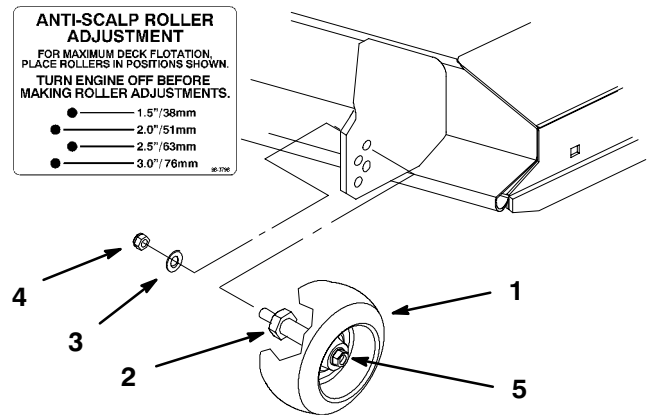

Figure 11
Note: Press on lift assist pedal when raising deck. This will help in lifting the deck (Fig. 11).
2. After adjusting height-of-cut remove flange nut and spring disk while holding stud with wrench (Fig. 11).
Note: Do not remove the wheel nut and washer (Fig. 11).
3. Select hole so gage wheel is positioned to the nearest corresponding height-of-cut desired (Fig. 11).
4. Reinstall the flange nut and spring disk. Torque to 40-45 ft-lbs. (54.2-61.0 N•m) (Fig. 11).